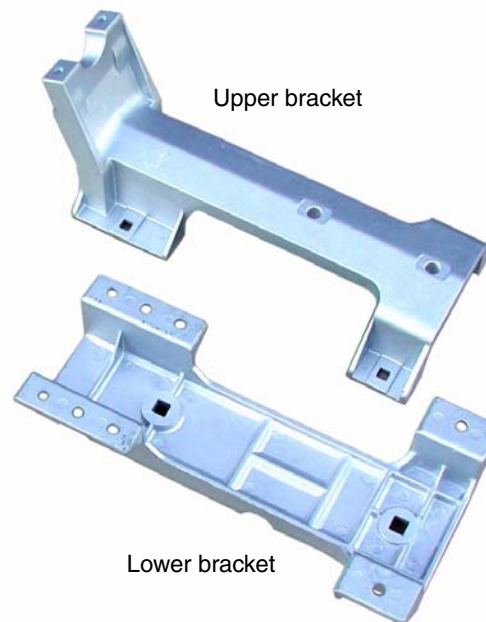
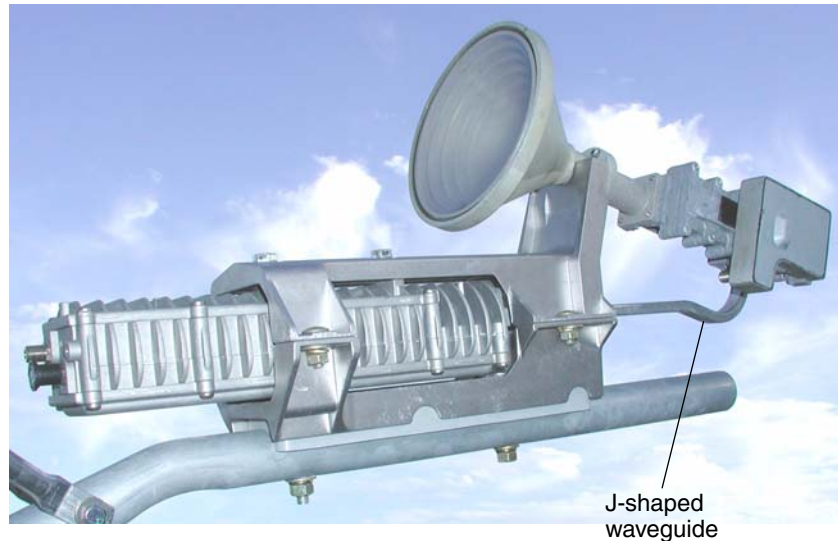

Figure 9: Radio assembly mounting brackets and adapter
Figure 10: J-type radio assembly
**Radio mounting brackets (for J-type radio only)** The antenna kit for the J-type radio assembly (only) includes two mounting brackets (Figure 9) that are used to secure the radio assembly to the feed support tube, as illustrated in Figure 10 on page 15.
**J-type radio assembly** Figure 10 shows the *J-type* radio assembly, referred to as *J-type* because its waveguide is shaped something like the letter J.